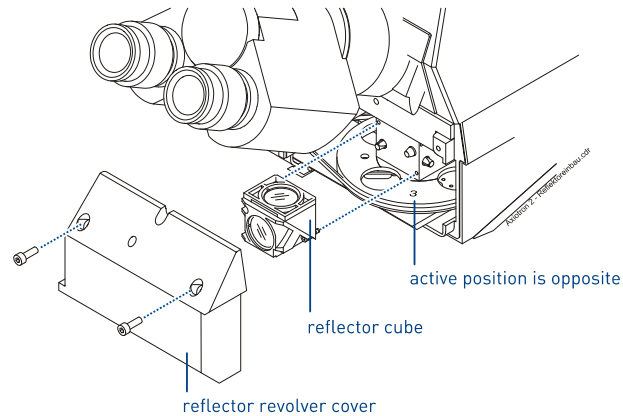

figure 42 Exchange of reflector cubes
- There are two more 3 mm Allen screws behind (see figure 42). Slacken them and take off the reflector revolver cover.